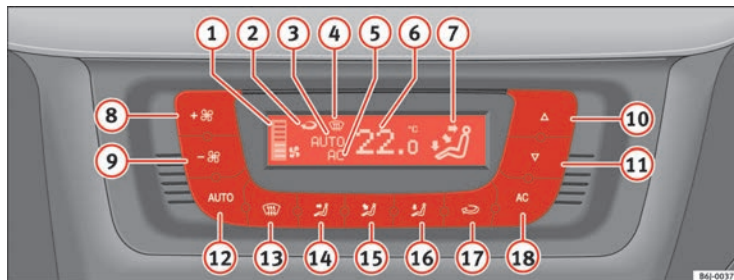

Fig. 91 Climatronic controls on the instrument panel
- Turn the temperature selector ⇒ page 121, fig. 91 ⑩ to adjust the desired temperature.
- ① Fan level indicator.
- ② Air recirculation display:
- ③ Display **AUTO** (Automatic operation)
- ④ Demisting indicator
- ⑤ AC indicator (Cooling connected)
- ⑥ Interior temperature indicator selected
- ⑦ Air flow direction indicator
- ⑧ Fan speed increase
- ⑨ Fan speed decrease
- Press the button **AUTO**. The indication ⇒ page 121, fig. 91 ⑦ is visible.
- Press one of the buttons \Rightarrow page 121, fig. 91  to  or press the blower control  and  down. The indicator is switched off .
The blower can be adjusted with buttons  and  \Rightarrow page 121, fig. 91. If the blower is off (level  is not shown on the screen) and button  is kept pressed down, the Climatronic switches off. Then **OFF** is displayed on the screen.
- Press the button  to switch air recirculation mode on or off. This is ON if the symbol  \Rightarrow page 121, fig. 91 is displayed on the screen.